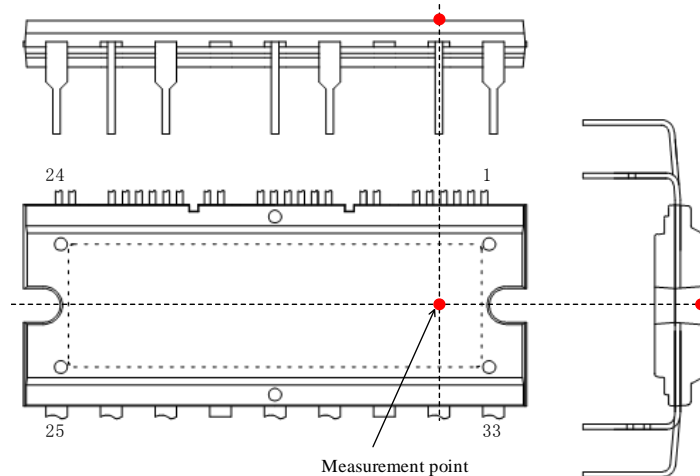

Figure 3-1. Case Temperature Measurement Point
- ⁽¹⁾ Refers to a case temperature at the measurement point described in Figure 3-1, below.